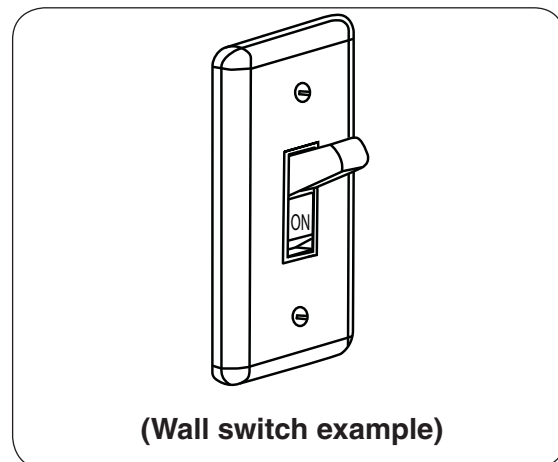

Fig. 11-1 Lighting
1. Locate the ON/OFF wall switch. Flip the switch to the **ON** position. See Fig. 11-1.